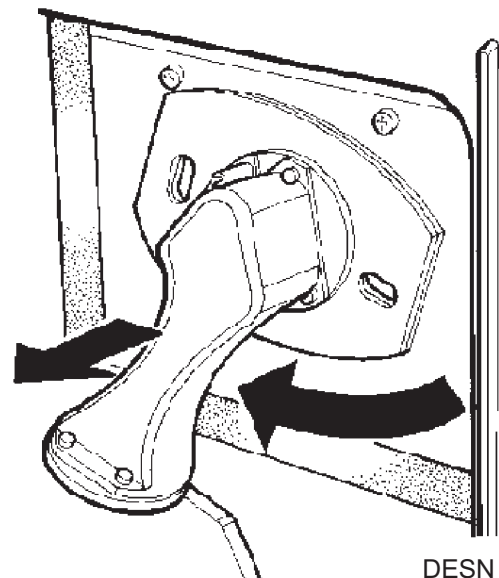

Fig. 4
6. Remove burner by twisting clockwise and then remove. (See Fig. 4).